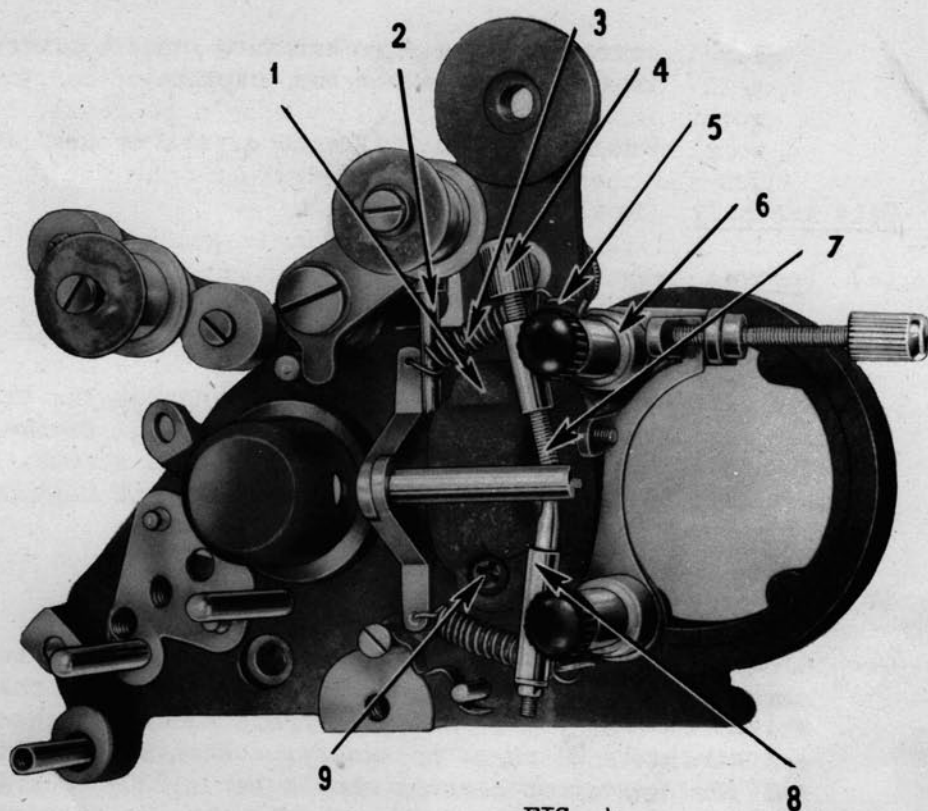

FIG. 4.
- (5) **Film Guide Rollers** - Inspect the rollers for flat spots worn in the body of the roller and cuts in the flanges. If either type of wear is found, replace the roller. Clean all studs and lubricate them with Amproil before assembly.
- (6) **Sound Optical System** - Clean external surfaces of the lenses with a piece of lens tissue, dampened with lens cleaner or alcohol. Hold the unit in front of a bright light and look through it from the end adjacent to the exciter lamp. A narrow, sharply defined and evenly illuminated beam of light should be seen. If the beam is hazy, unevenly illuminated, or appears unserviceable in any way, return the unit to the manufacturer for repair.
- (7) **P.E.C. Shield** - Check for cracks or chips. Examine the conducting coating in the bore. The coating should be continuous all over the inside surfaces and should not be loose or "flaky". When replacing, the hole in the side of the shield must be accurately lined up with the axis of the sound optical system.
- (d) (1) **Adjustment (See Fig. 4)**
- (5) To focus the sound system using a loop of 5,000-cycle test film and the adjusting harness (see Fig. 4) proceed as follows:-
- (a) Remove the exciter lamp cover and, using the two cover screws, secure the main body of the harness (6) into position on the soundhead (1).